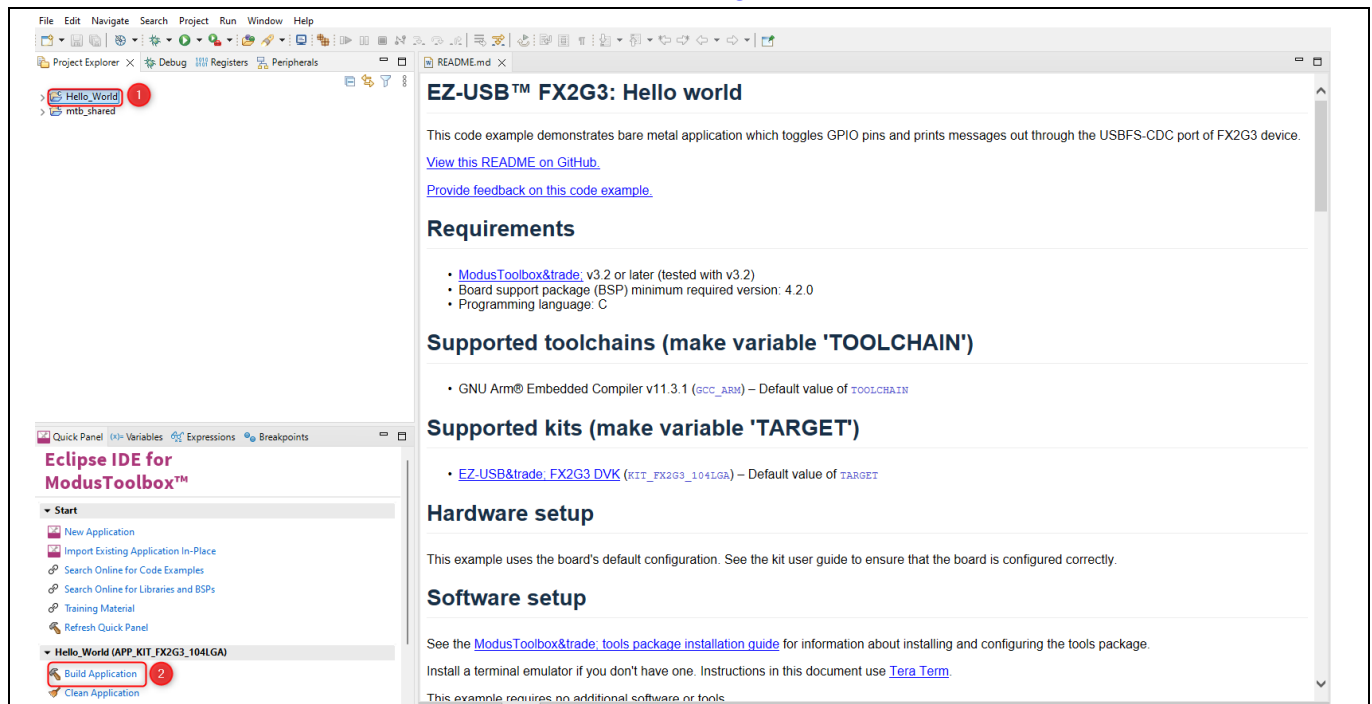

Figure 6 Building an application using Eclipse IDE for ModusToolbox™ software
2. In **Quick Panel**, select **Build Application**, as shown in Figure 6